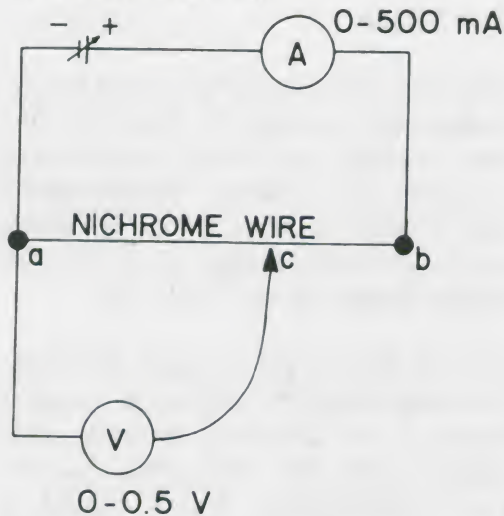

Figure 19B.
1. Construct, or *wire*, the circuit shown in Figure 19. Points A and B are connected by a piece of *nichrome* wire one meter long. (Nichrome is an alloy of nickel and chromium metals.) Point C is a sliding electrical contact. Select the appropriate plug-in units from your multimeter kit to make the voltmeter and ammeter with the ranges indicated in Figure 20. Adjust the power supply so that the ammeter reads 100 mA ( $1 \text{ mA} = 10^{-3} \text{ A}$ ). The arrow through the power-supply symbol shown in the schematic wiring diagram Figure 19B indicates that the power supply is variable.